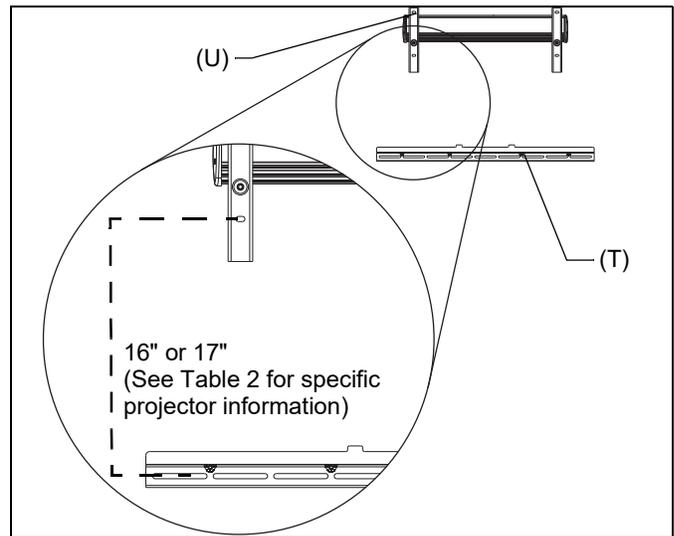

Figure 5
IMPORTANT ! : The distance between the screen mounting bracket (T) lower mounting holes and the projector mount wall bracket (U) mounting holes varies, and is dependent upon whether the projector is a lamp model or laser model. See Installation Template and (See Figure 5).